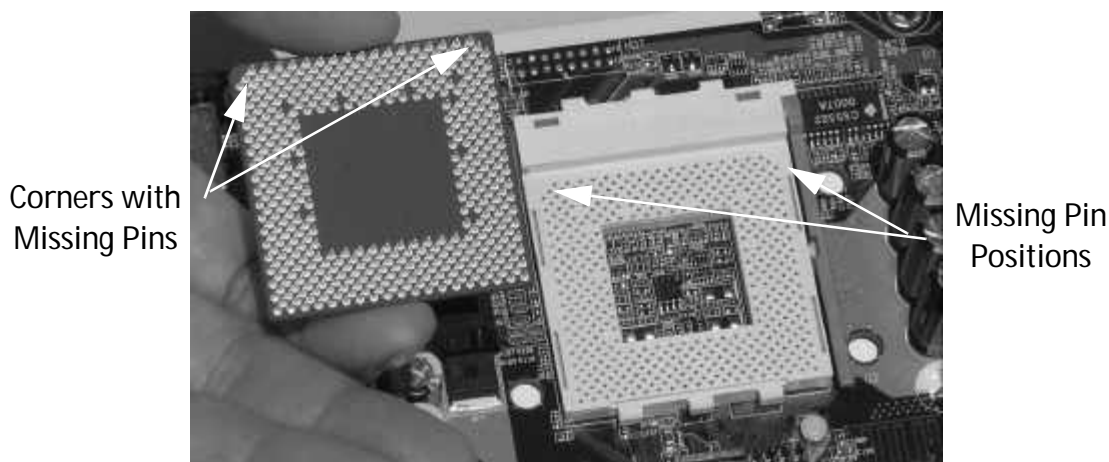

Figure 3. Underside of the Processor Showing Pin Corner Keys
- Figure 3 shows the underside (pin side) of the processor. Notice how the pin array at the two upper corners in the picture are angled and there are no pins in either top corner. Notice also that there are no pin positions in the top corners of the socket (near where it is labeled "Socket 462"). The processor must be positioned so the processor and socket pin patterns match. When positioned properly, the 45° cut corner of the processor will be next to the release pivot.